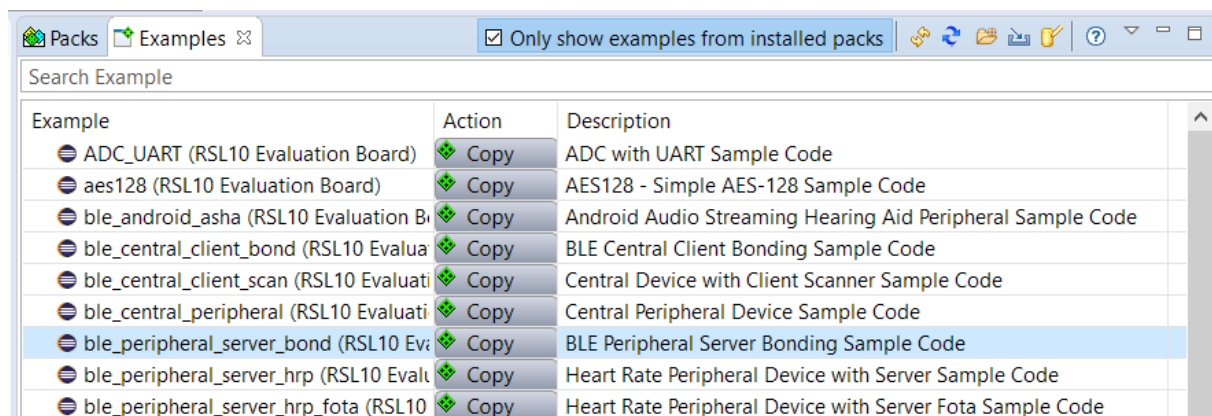

Figure 13. Bringing the Project Into the Workspace
1. Copy the *ble_peripheral_server_bond* sample application into your workspace. The C/C++ perspective opens and displays your newly copied project, as shown below in Figure 13.